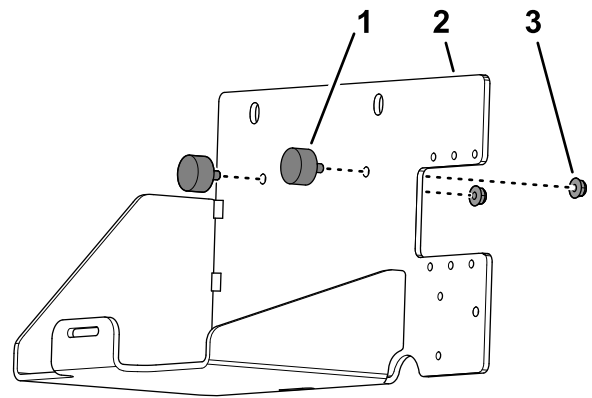

Figure 215
1. Assemble the 2 bumpers to the battery bracket (Figure 215) with 2 flange locknuts (1/4 inch).